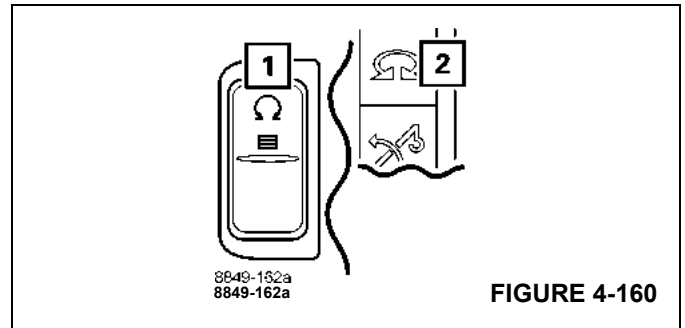

FIGURE 4-160
- Press the button (1), (Figure 4-160) once.
- Symbol (2) is green if the swing gear is switched on.